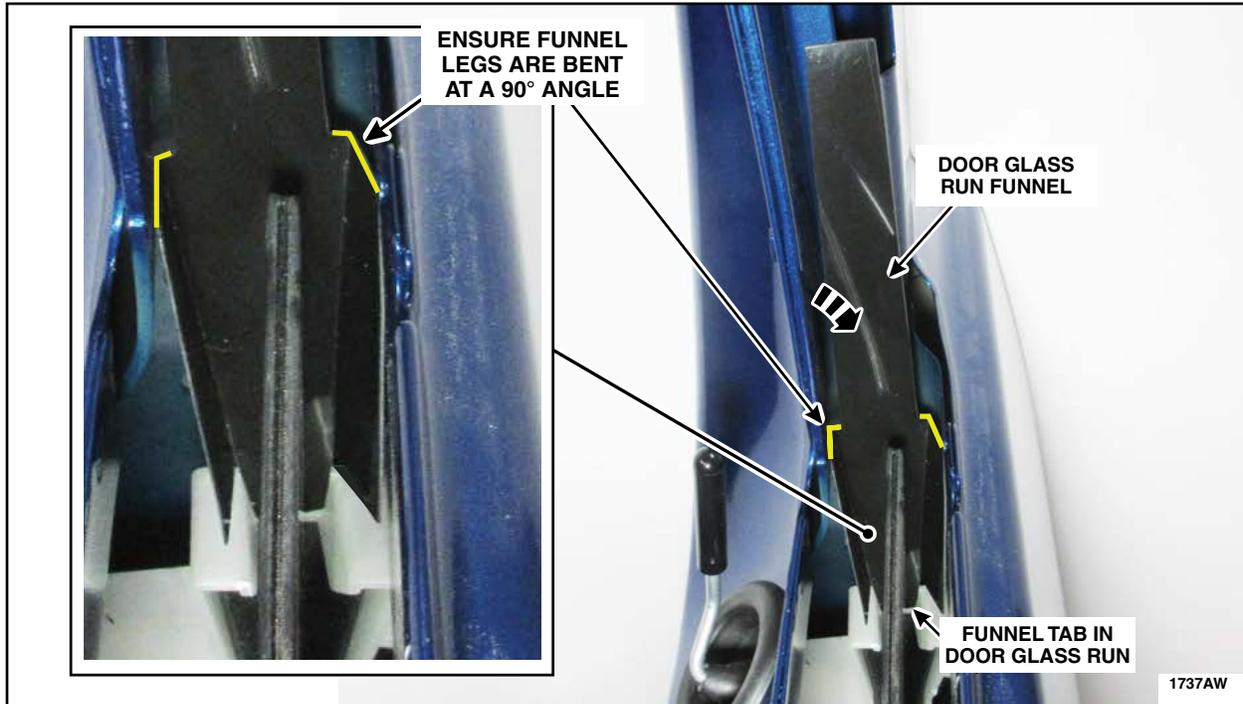

FIGURE 15
16. Install the door glass run funnel (157 mm funnel wings) ensuring that the lower tab is situated in the door glass run and the funnel sides sit at a 90° angle above the door glass run. See Figure 15.